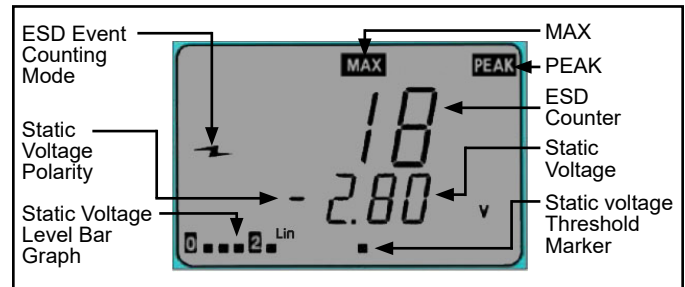

Figure 9. Static Voltage Field channel
1. Toggle the joystick until the Static Voltage channel is displayed (Figure 9).